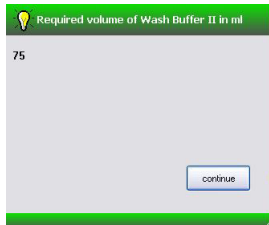

Figure 14. Requested volume of Wash Buffer II - dialog window
24. Check for the necessary volume of Wash Buffer II (Fig. 14).